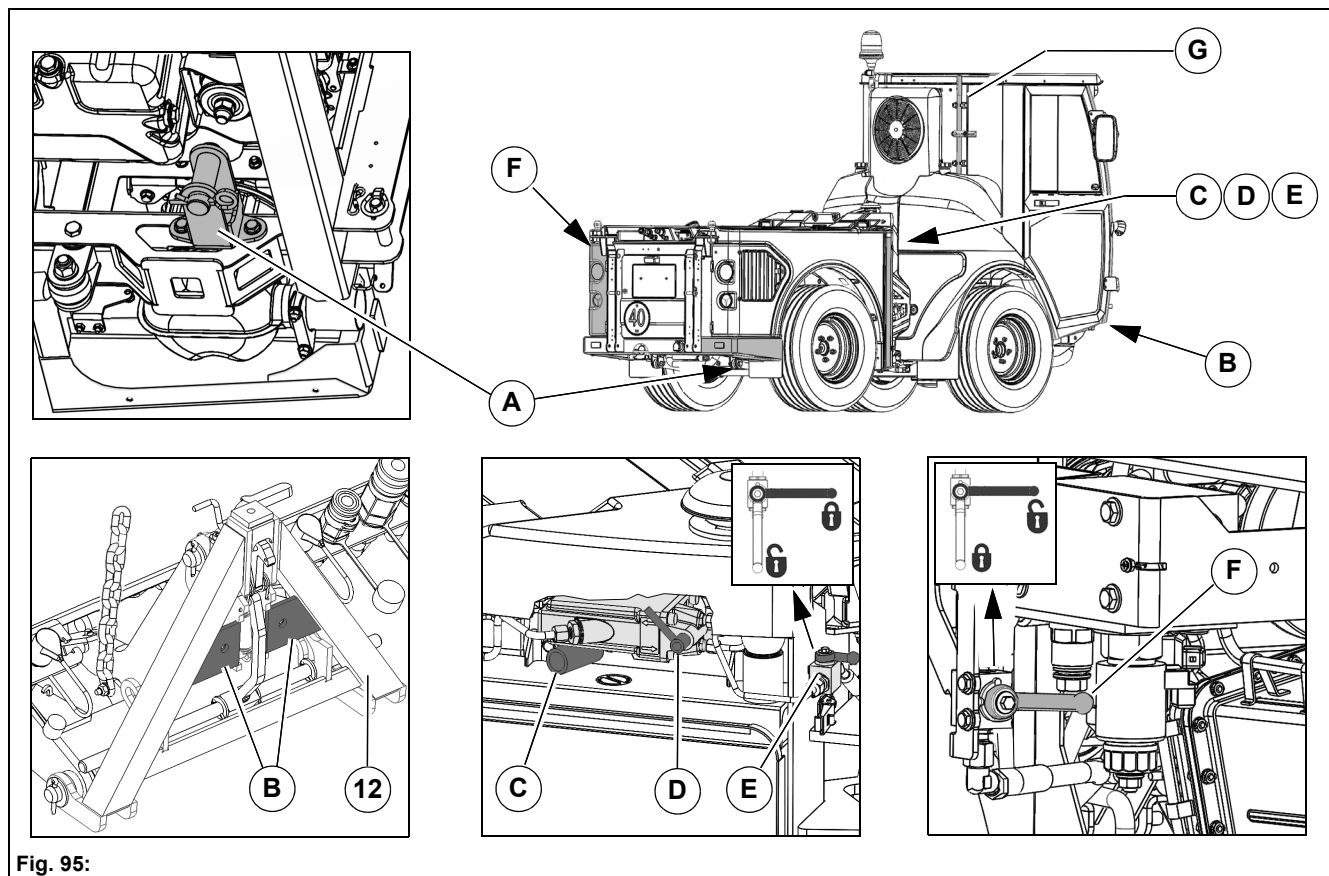

Fig. 95:
1. The towing eye **Fig. 95-A** is located in the rear wagon on the right and must be mounted on the holder **Fig. 95-B** of the front tool carrier **Fig. 95-12**.
2. Turn the lever of the hand pump **Fig. 95-D** into the upper position.
3. Close the ball cock **Fig. 95-E** to the right of the hand pump (see symbol).
4. Open the ball cock **Fig. 95-F** of the bypass valve (see symbol).
5. Insert the auxiliary tool **Fig. 95-G** in the hand pump **Fig. 95-C** and pump so long (approx. 25 times) until the parking brake is unlocked.
After completing the towing process, open the ball cock **Fig. 95-E** again and close the ball cock **Fig. 95-F** of the bypass valve again. Set the lever of the hand pump **Fig. 95-C** to the lower position again!